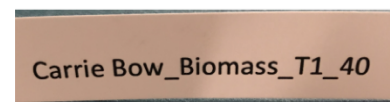

Figure 1: Example label with site (Carrie Bow), method (biomass), transect (1), and replicate (40 m).
3. Place 18 internal labels with the same metadata written on water-proof paper inside the corresponding plastic bag (Fig. 1).